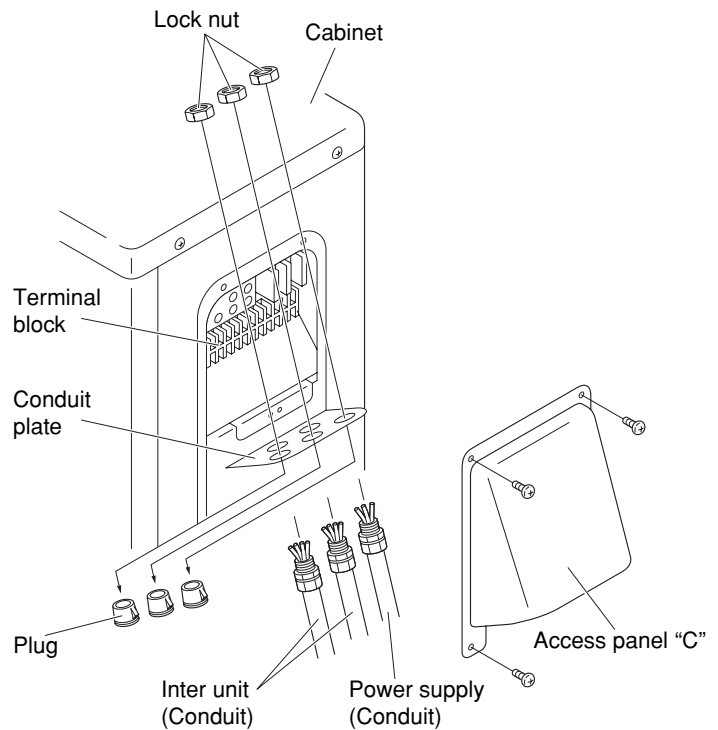

Fig. 32
- (1) Remove access panel "C". (Fig. 32)
- (2) Connect the inter-unit and power supply line according to the drawing on the panel side.
- (3) Be sure to size each wire allowing approx. 4" (10 cm) longer than the required length for wiring. Store excess wiring inside the cabinet.
- (4) When connections are completed, check that all connections are correct as shown in the wiring system diagram on panel side.
- (5) Be sure to ground the unit according to your local codes.